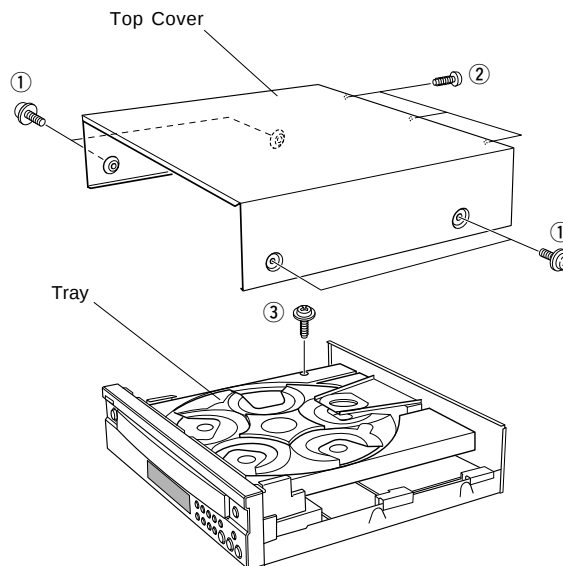

Fig. 1
- a. Remove 4 screws (①) and also 3 screws (②) in Fig. 1.
- a. Remove 1 screw (③) in Fig. 1.